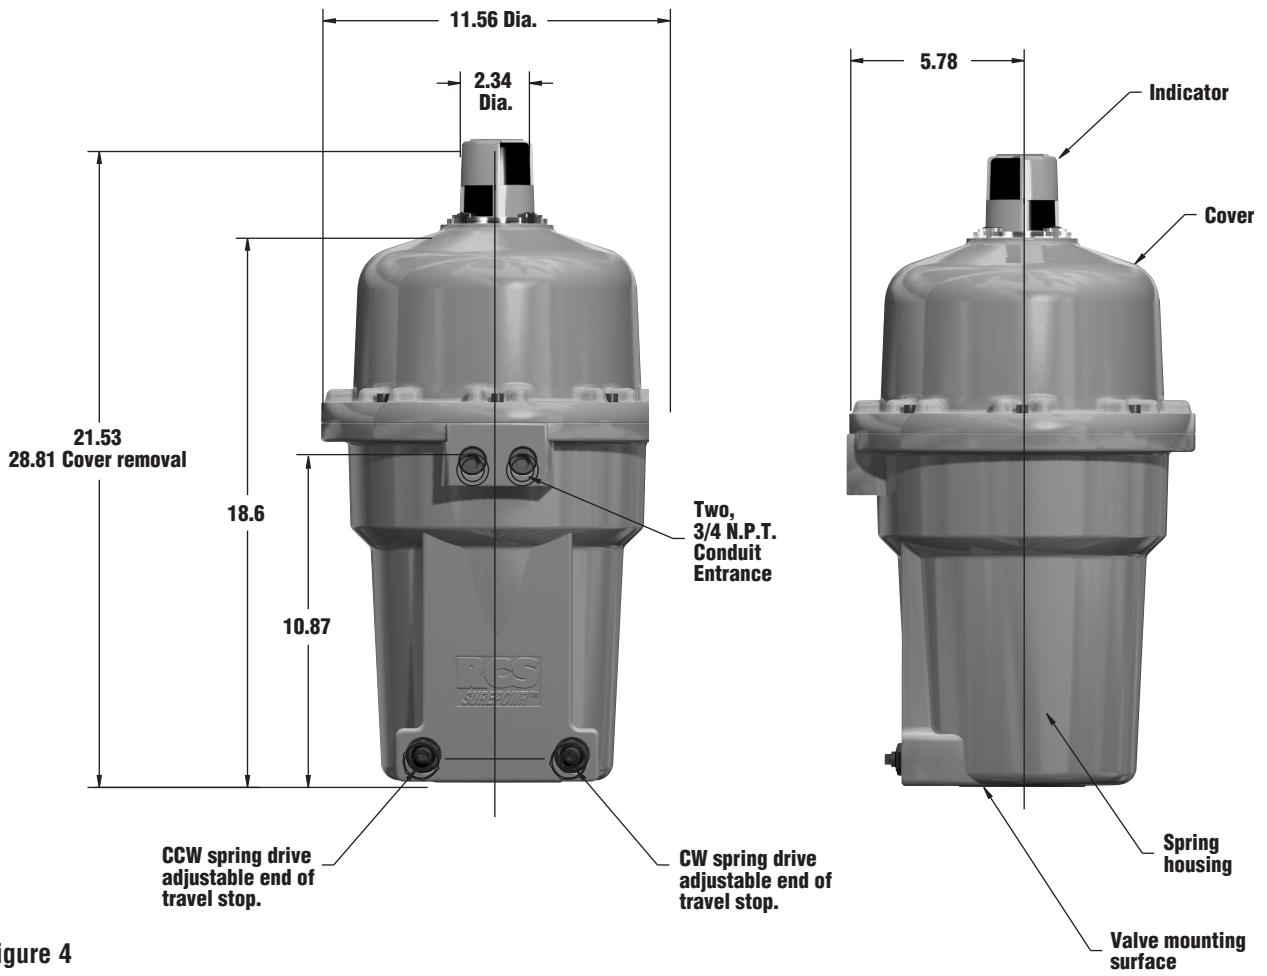

Figure 4
**Note:** Ensure the driven device is properly positioned in its full fail position. If it is not, use the adjustable end of travel stop on the Sure 100 (see figure 4) to properly adjust the fail end of travel stop. Only the fail end of travel may be adjusted. Loosen the lock nut to free the adjusting screw, then use a wrench to turn the screw. The total adjustment available is +/- 5°.